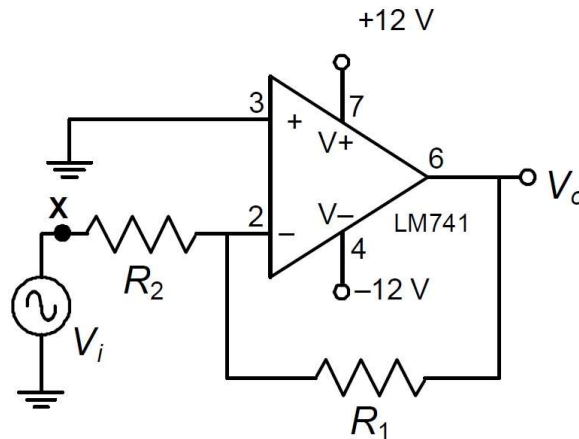

Fig.1
1. Assemble the circuit shown in Fig.1 with  $R_1 = 10$ k $\Omega$  and  $R_2 = 1$ k $\Omega$ . Make sure the power supply ground is connected to the circuit ground.